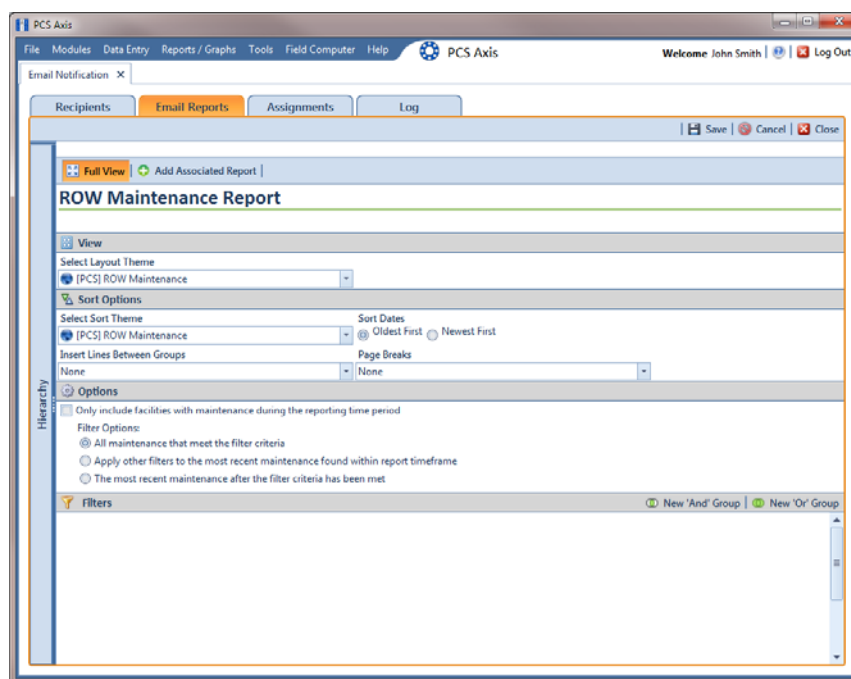

Figure 12-10. Email Reports
- 10 Click  **Full View** to only display fields for setting report options. Clicking *Full View* again displays all fields (Figure 12-10).